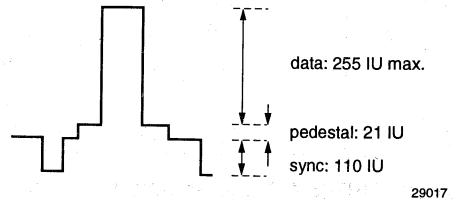
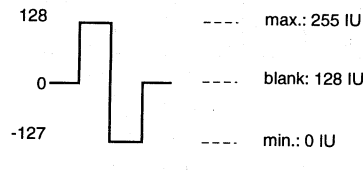

Figure 2. RGB/Y DAC output levels in Current Units
Figure 3. CBCR DAC Output levels in Current Units
Nominal outputs (see Figure 2 and Figure 3) are expressed in Current Units (IU) where 1 IU is equivalent to the current activated by one unit of D/A input data (Gdata/Ydata, Bdata/CRdata, or Rdata/CBdata). SETUP = HIGH activates a 21 IU pedestal when BLANK = H. SYNC = LOW suppresses a 110 IU offset to form the sync pulse. SETUP is programmed through Register 7 bit 2.